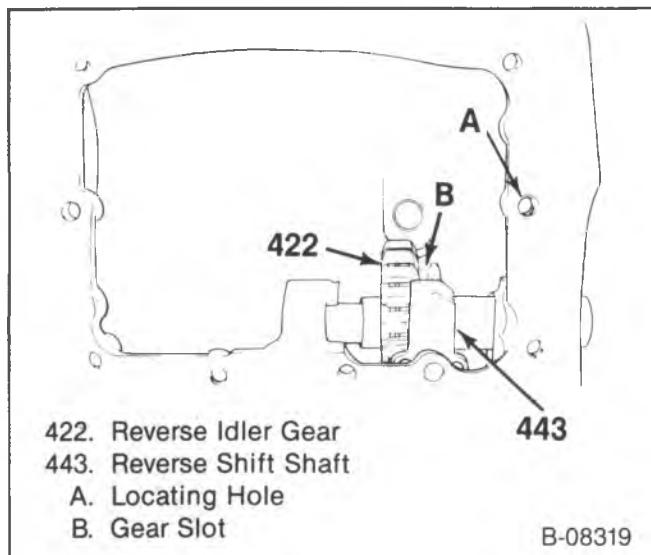

Figure 16—Reverse Idler Gear and Case
- 5. Countershaft (429) and the woodruff key.
- 6. Reverse shift shaft (443) and a new seal.
- 7. Reverse idler shaft (424) and the reverse gear.
- Put the gear onto the shaft with the fork slot to the rear and engage the slot with the reverse shift shaft fork (figure 16).
- 9. Bearing retainer (401) and a new gasket.
- 10. New countershaft plug (432).
11. 1st and 2nd shift fork (453) into the synchronizer slot.
12. 3rd and overdrive shift fork (452) into the side cover.
13. New side cover gasket (451) and the detent ball and spring.
14. Side cover (450).
- 15. Side cover screws (449) and new spring washers.
- Install the locating (long shoulder) screw finger tight in the locating hole (A), (figure 16).
- 16. Reverse shift lever (445).